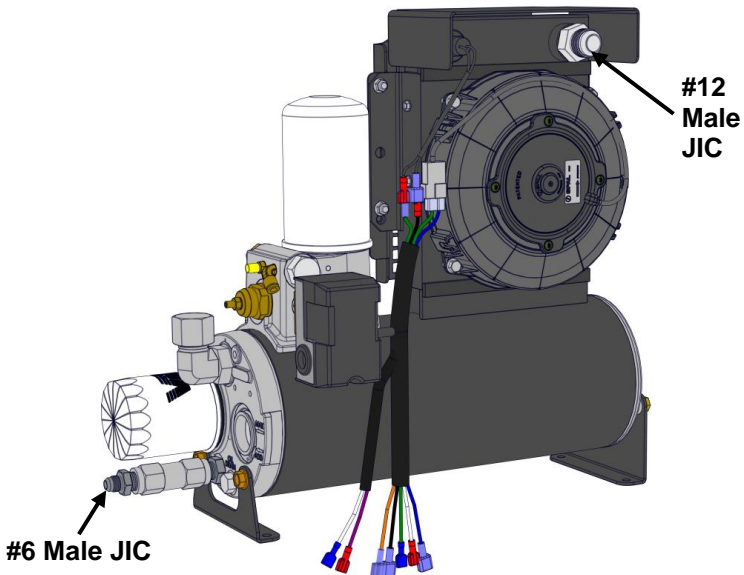

Figure 6.1 – WHASP Oil return and Air/Oil Inlet
- The straight fitting on the 3/4" Compressor discharge hose connects to the #12 Male JIC fitting on the upper cooler tank (above the fan, air/oil inlet) (Figure 6.1).
- The 90° fitting on the 3/8" Oil return hose connects to the #6 Male JIC fitting near the bottom of the oil filter end of the tank (oil return fitting) (Figure 6.1).